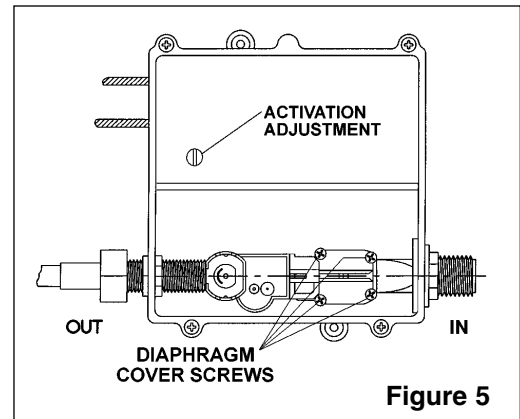

Figure 5
2. Locate the activation adjustment knob (see Figure 5).
To clean the battery box, refer to Figures 5–6 and follow the procedure outlined below: